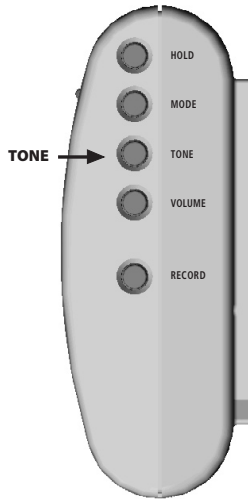

Fig. 5
1. Press the TONE button on the right side of the unit (see Fig. 5) to scroll through the tone selections.
2. Each time you press the TONE button, the selection changes and a two (2) second sample of the tone is played.